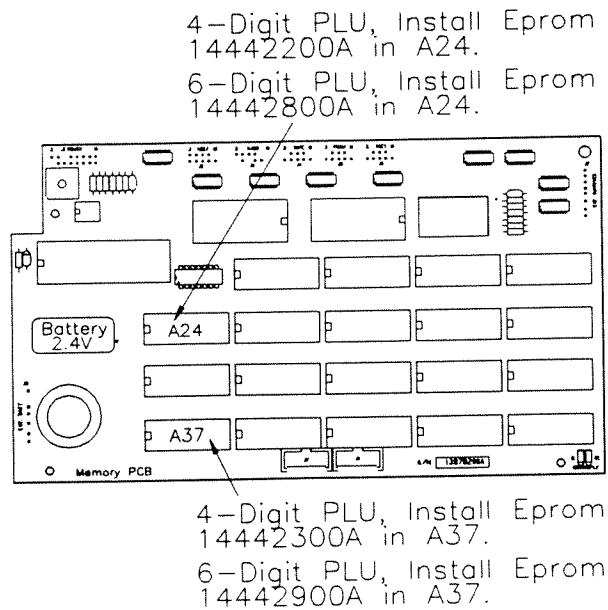

Figure 4.5 - Master Memory PCB
4.4.4 Using an IC extraction tool, remove the EPROM's from locations A24 and A37 on the Memory PCB P/N *12895400A (Figure 4.5).
4.4.5 **4-Digit PLU Kit 0901-0369** - Install EPROM P/N *14442200A in socket A24, and EPROM P/N *14442300A in socket A37. (Figure 4.5) Make sure the orientation notches in the socket and the EPROM's are facing the same direction.
6-Digit PLU Kit 0901-0370 - Install EPROM P/N *14442800A in socket A24, and EPROM P/N *14442900A in socket A37. (Figure 4.5) Make sure the orientation notches in the socket and the EPROM's are facing the same direction.